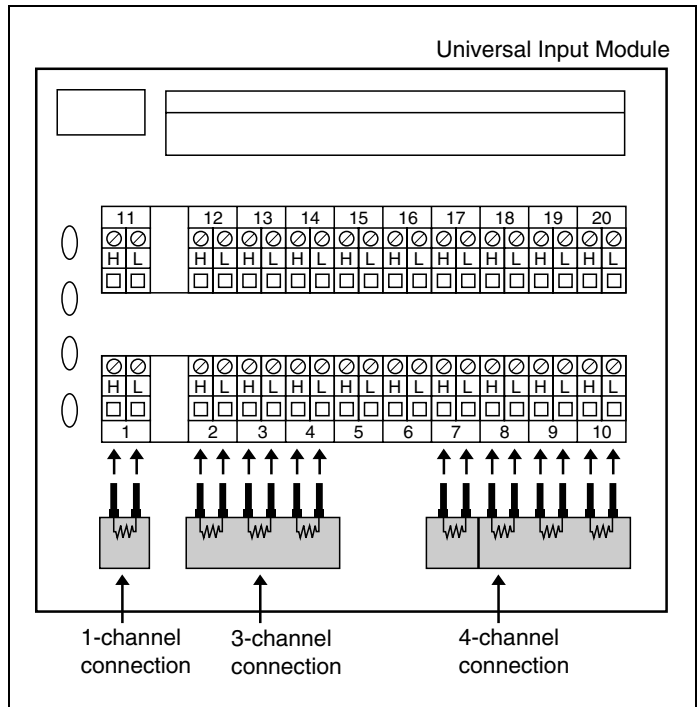

Figure 3. Position the 2620A-101 in the Universal Input Module (white side up)
Refer to Figures 3 and 4 for the following instructions.
3. Loosen the screws for the selected measurement channel(s) and place the shunt resistor(s) in position with the white side up (Figure 3). You can connect up to 12 measurement channels with each 2620A-101.